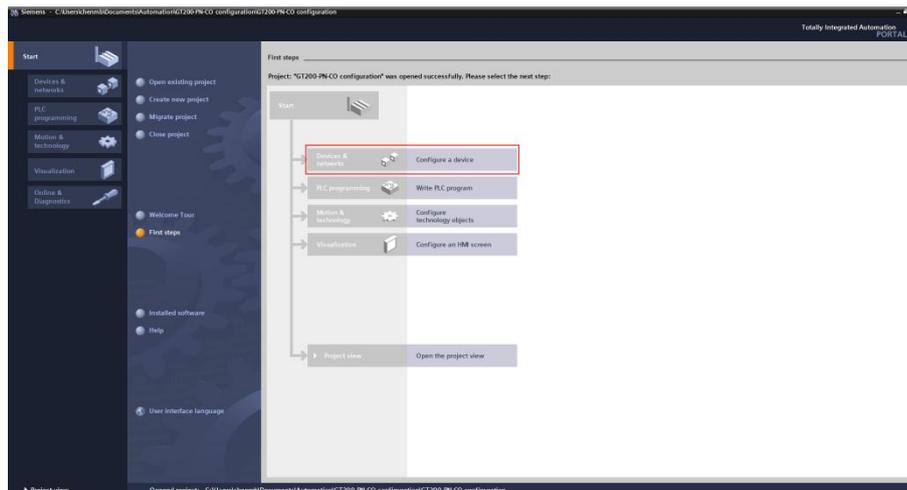

Figure 2: Configure a Device
1.2 After the creation is complete, click "Configure a Device", as shown in Figure 2.